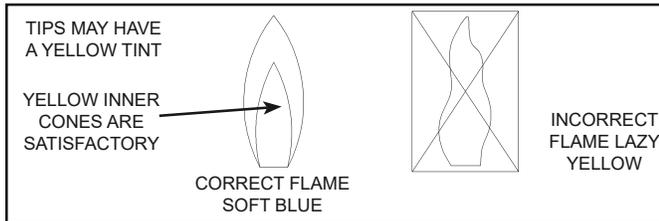

Figure 31
1. Turn the gas control/temperature knob to the "OFF" position (see Figure 31 and Figure 33).